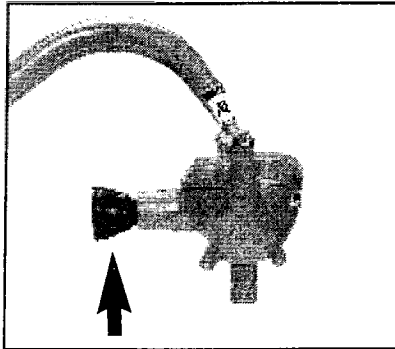

FIG. 4 - PINION GUARD
STEP 10: Discard the pinion protection cap, PN 7568. Slide the Pinion Guard, PN 7428H, over the gearbox pinion (see FIG. 4). Slide the smaller end of the driveline over the gearbox splines and secure by driving roll pin, PN 7570, through the hole in the Pinion Guard and into the end yoke and pinion.